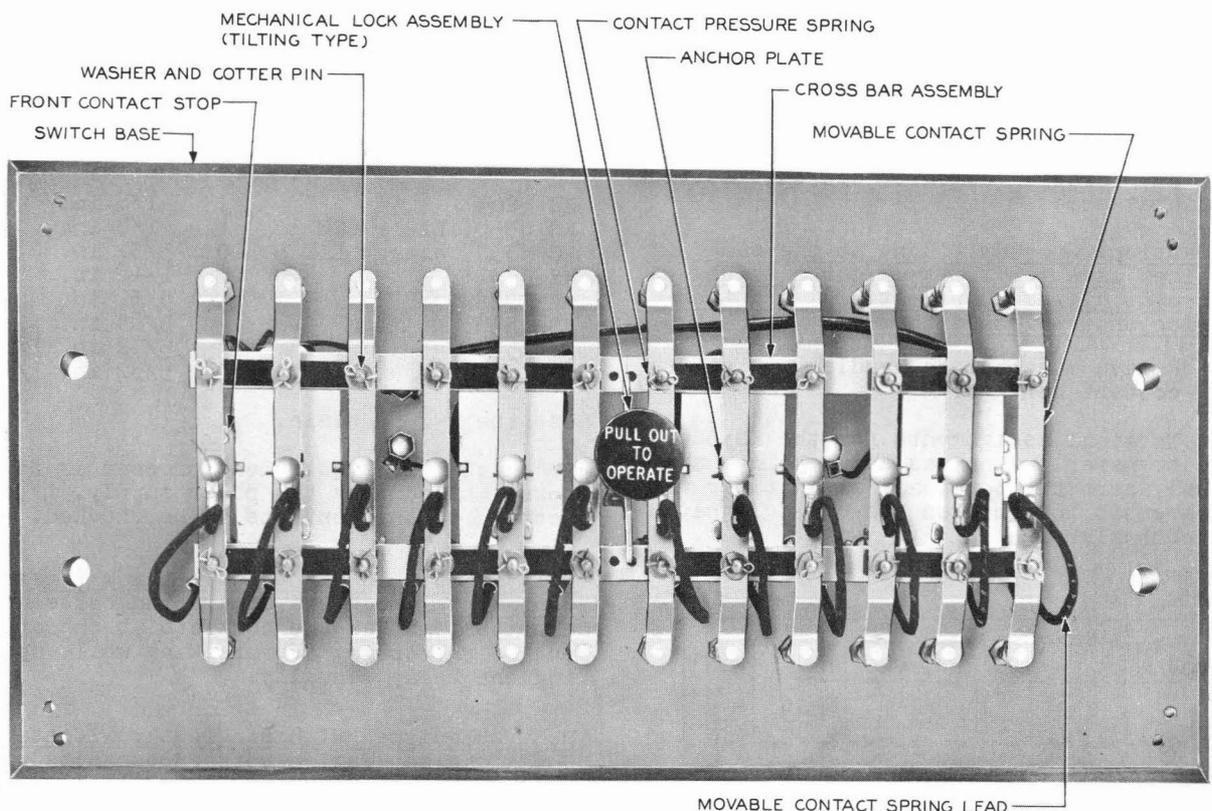

Fig. 1 - KS-5264 Transfer Switch
1.02 This section was reissued as issue 6 to include the KS-15806 control relay, to specify normally closed contacts instead of normally open contacts for the KS-15503 control relay, to replace a mercury filled thermometer by a spirit filled thermometer, to add the information covering the use of petroleum spirits for cleaning purposes, and is now reissued as issue 7 to correct Fig. 1. The arrows indicate changes from issue 5.